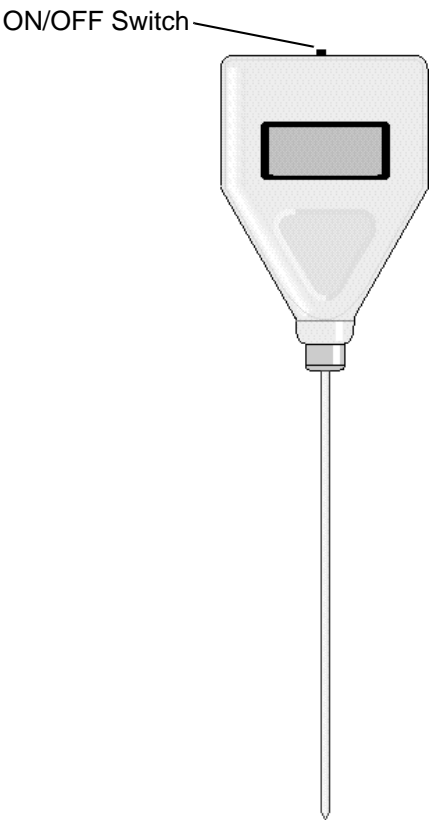

Figure 2: Digital Thermometer, Probe Cover Removed
3. For digital thermometer users only: Remove thermometer probe cover and turn the thermometer ON (see Figure 2).